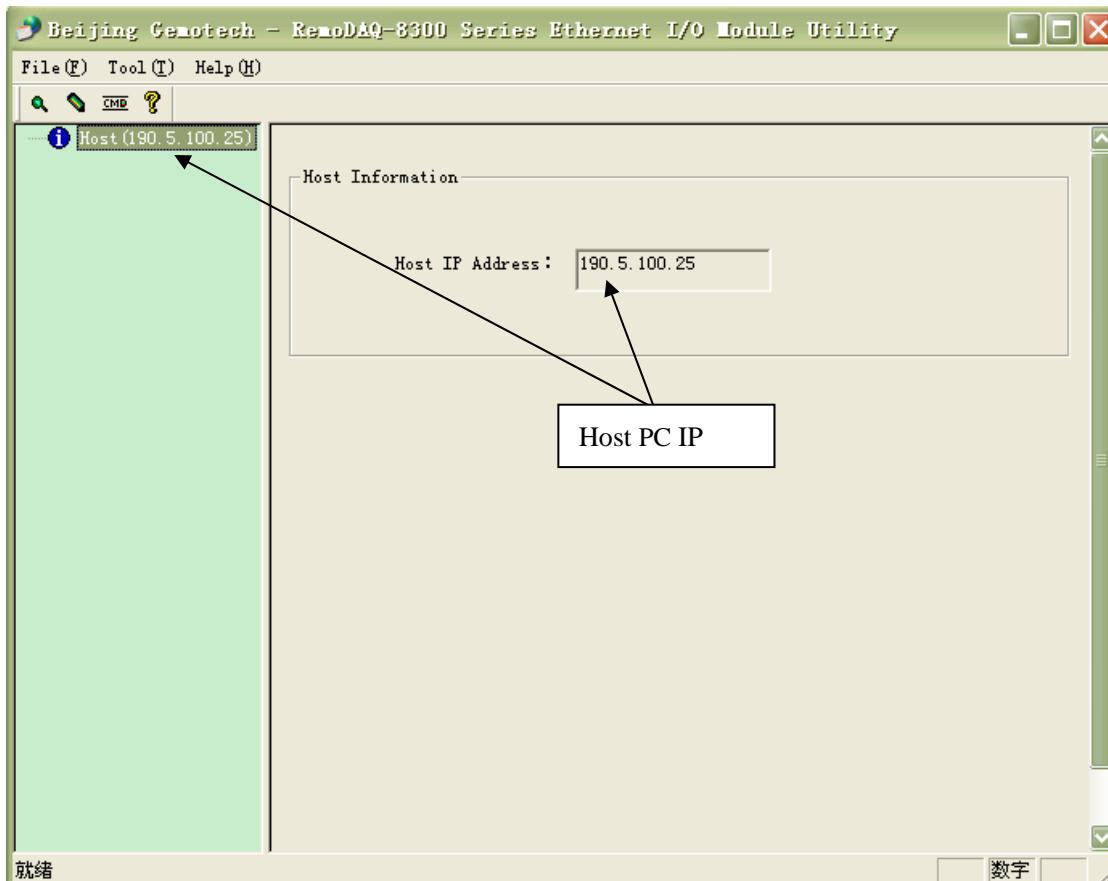

Figure 3.4
- 5, Double click the shortcut icon into the interface so that you should be able to see the operation window as Figure 3.4.